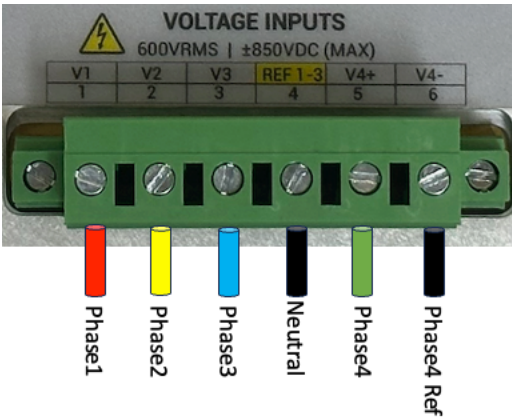

Figure 22: VECTO 3 - 4-Wire (Star) Voltage Connection Layout
- Connect Phase 1,2 and 3 to Voltage Inputs 1-3 as shown in Figure 22.